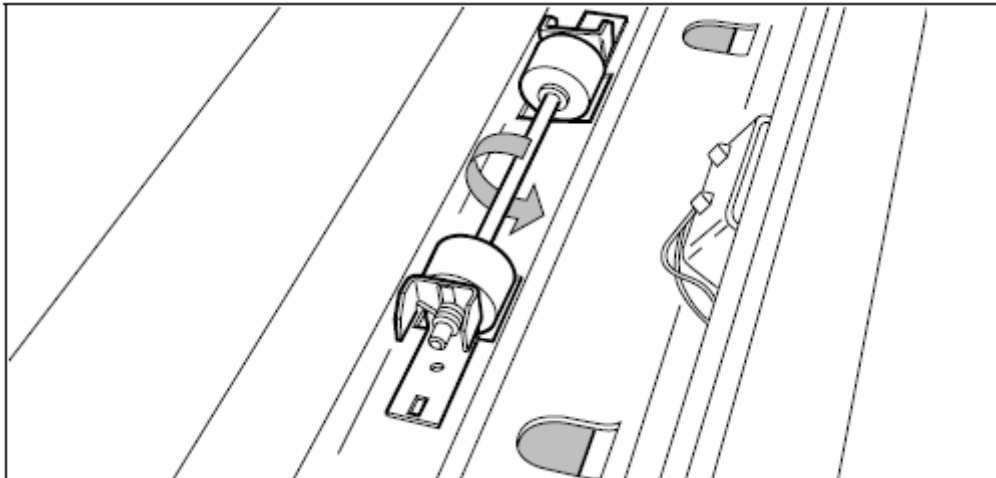
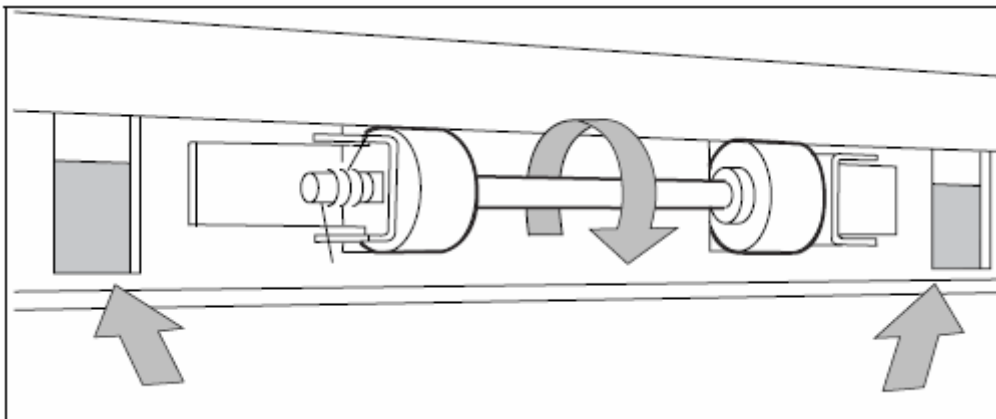

Figure 1. Roll 1
Figure 2. Roll 2
11. Put the material back into position (see figure 1 below for Roll 1) & (see figure 2 below for Roll 2).